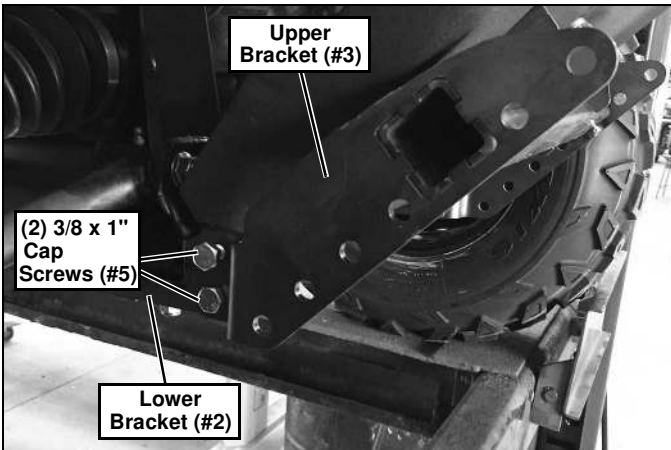

Figure 8
8. Insert (4) 3/8"-16 x 1" Cap Screws (#5) into the rear side holes of the Upper Bracket (#3) and thru the Lower Bracket (#2). Secure with (4) 3/8"-16 Lock Nuts (#6). (See Figure 8.)